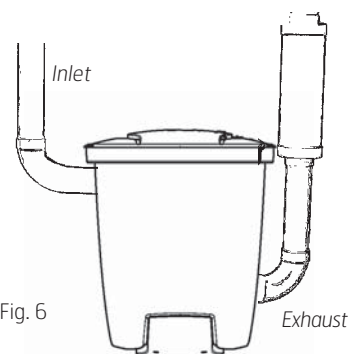

Fig. 6
5. Fit the blanking plug to the outlet previously occupied by the suction pipe socket. Use the four screws to hold it in place. The exhaust pipe must be firmly attached to the wall to ensure its connection with the socket does not loosen. Remember that you will need to be able to turn the bent pipe in different directions to ensure a suitable pipe layout. Then connect up the exhaust pipe and muffler, Fig 6. Fit the central vacuum cleaner so that the exhaust pipe is as short as possible, max. 5 metres. Take the surroundings into consideration when positioning the exhaust. For this reason, you should always fit a muffler.